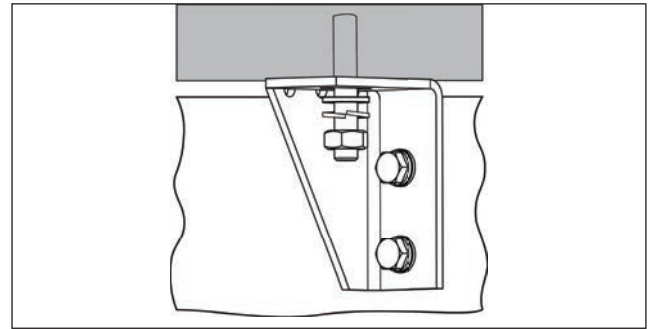

Fig. 9.1
- Use anchor bolts with plane washers, locking washers and nuts (Fig. 9.1). The diameter of the fastening elements must correspond with the diameter of the mounting holes. Observe the distance between the fastening axes of the unit cooler.